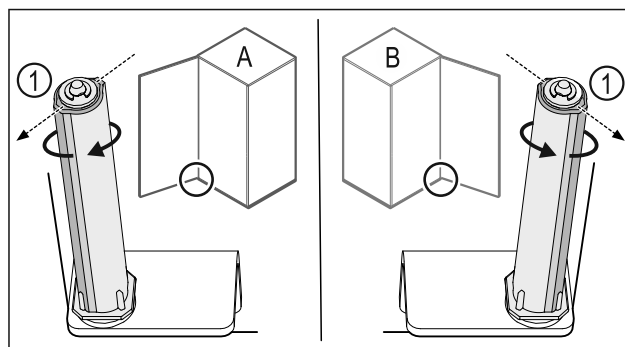

Fig. 27 Left-hinged (A) / Right-hinged (B)
- Turn the closing system against the resistance until the bar of the closing system *Fig. 27 (1)* points outwards.